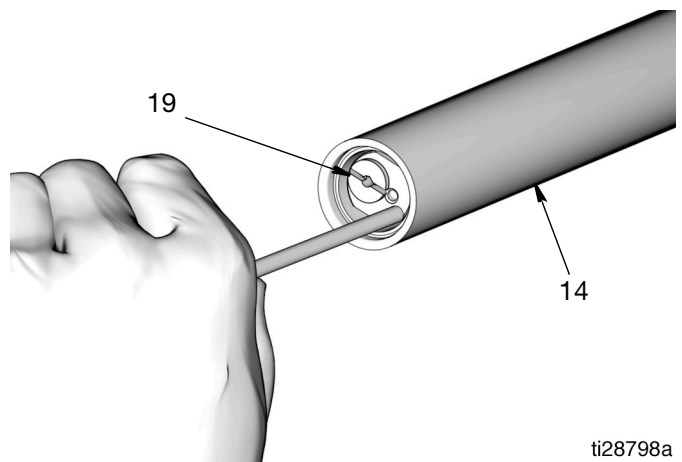

FIG. 29
2. Coat the new check valve assembly (19) with a thin layer of grease.
3. Use a smooth, long brass or aluminum rod, free of sharp edges and burrs, to push the check valve assembly (19) into place in the outlet tube (14) (FIG. 29).